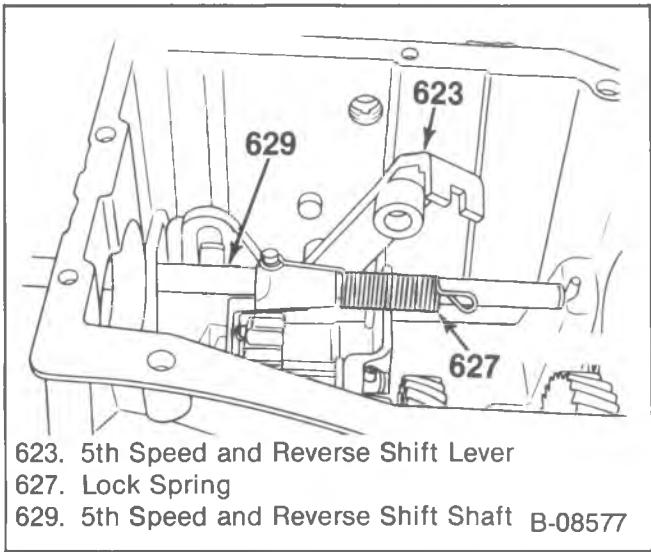
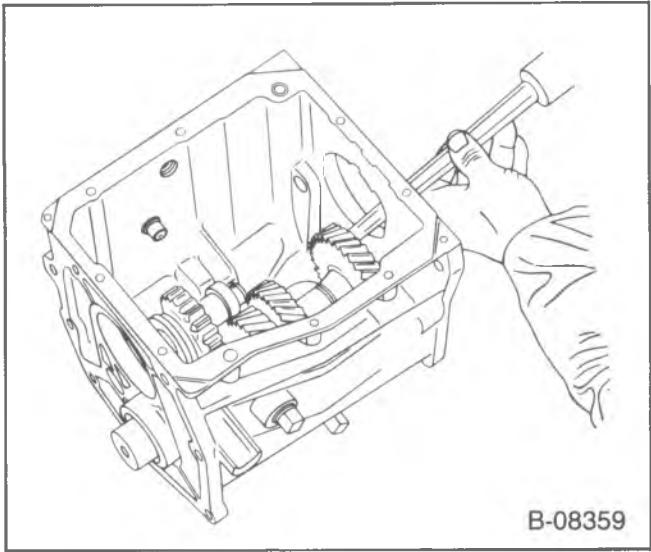
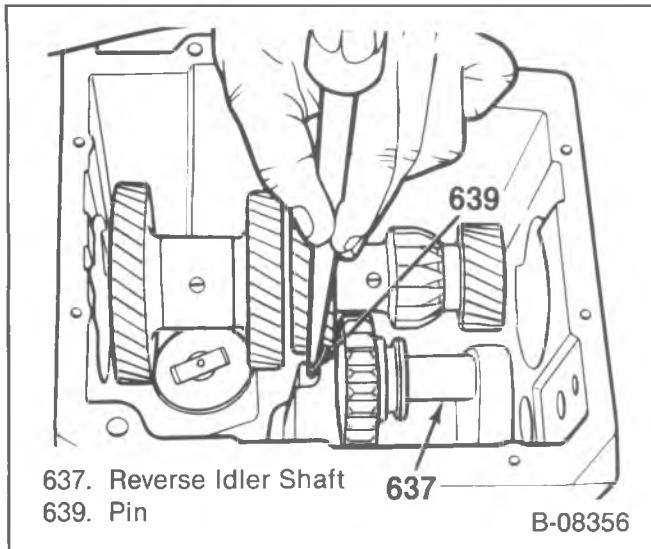

Figure 121—5th Speed and Reverse Shift Shaft
Figure 123—Removing the Countergear Rear Bearing
Figure 122—Removing the Reverse Idler Shaft Pin
14. Mainshaft rear bearing race (605).
15. Mainshaft (604).
16. 5th speed and reverse shift shaft (629), (figure 121).
17. 5th speed and reverse shift lever (623).
18. Reverse idler gear (638).
- Drive the pin through the front of the idler shaft (637), (figure 122).
19. Snap ring and the countergear rear bearing spacer (634), (5 speed only).
20. Countergear rear bearing (635).
- Drive the countergear (640) to the rear to remove the bearing, (figure 123).